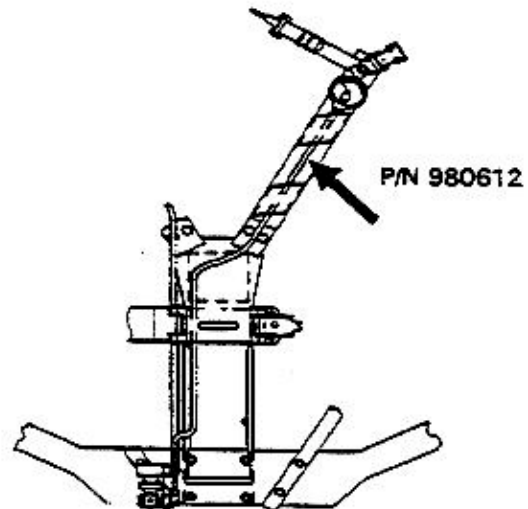

Figure 1.
The rubber over-the-shoulder gauge hose will fit only in the chevron-style strap, P/N 942234, shown in Figure 1.
3. Route the rubber gauge hose through the backpack and shoulder strap as shown in Figure 1.